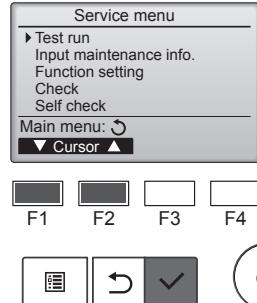

Fig. 7-1
- Select "Test run" from the Service menu, and press the [SELECT] button. (Fig. 7-1)